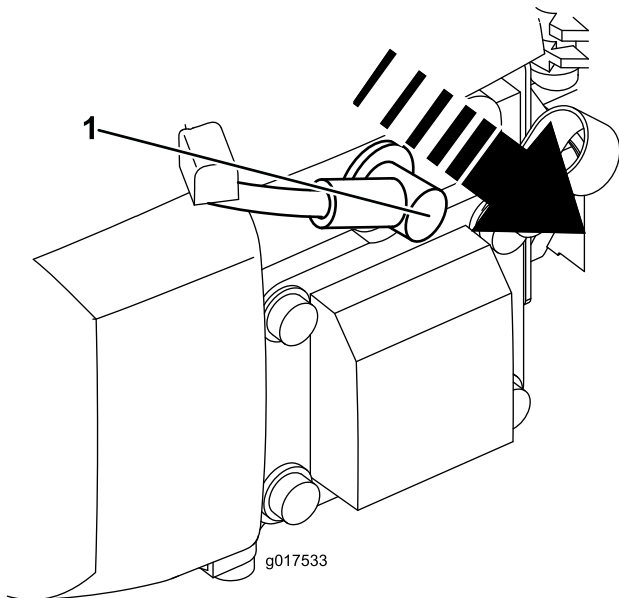

Figure 16
- Disconnect the spark-plug wire from the spark plug (Figure 16) before performing any maintenance procedure.